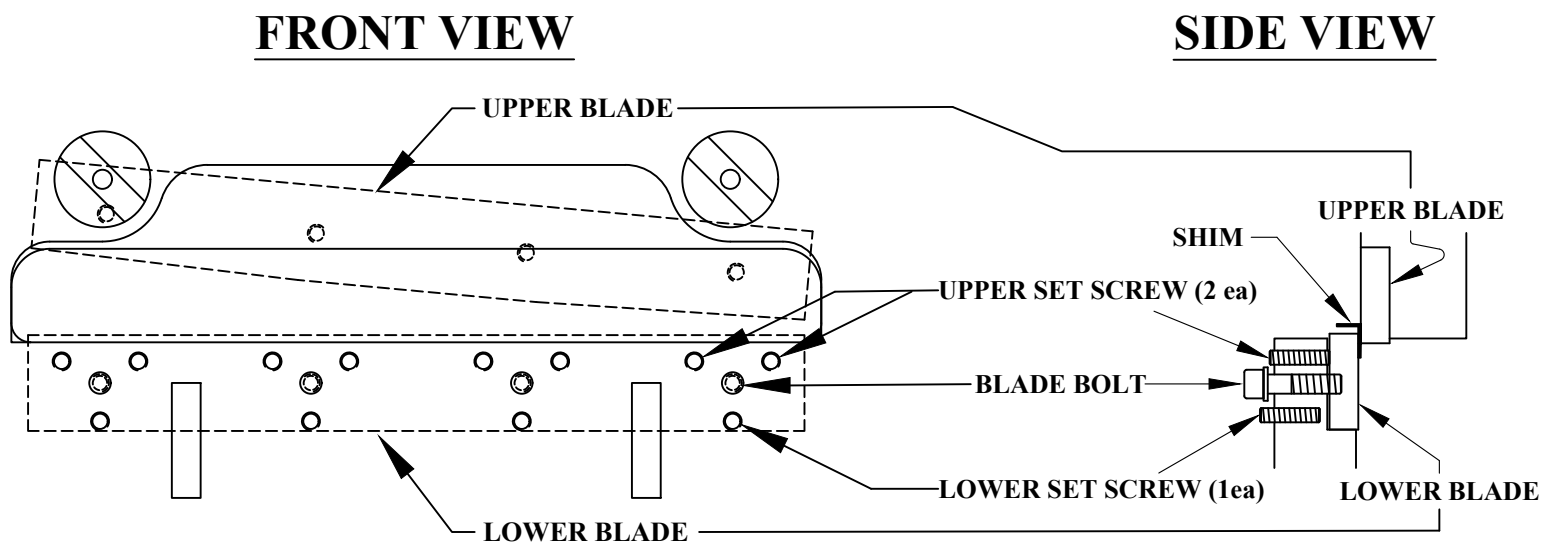

FIGURE 14
- Adjust the lower blade to the upper blade to achieve desired clearance. See Figure 14 below. Ensure that the lower blade is adjusted with a slight cant, or tilt of a few thousandths of an inch, so that the cutting edge of the blade is closer to the top blade.